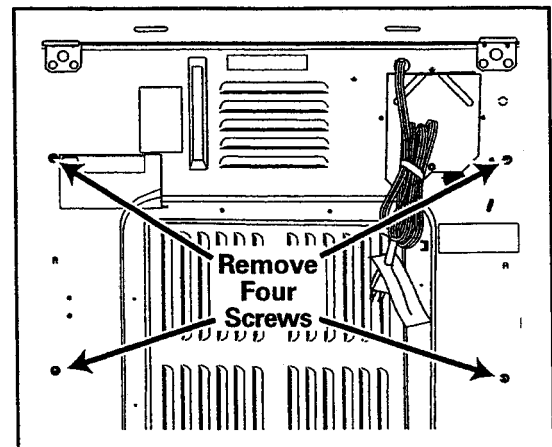

Figure 2-82
- From back of dryer, remove four screws holding tumbler back assembly and remove assembly (*Figure 2-82*).